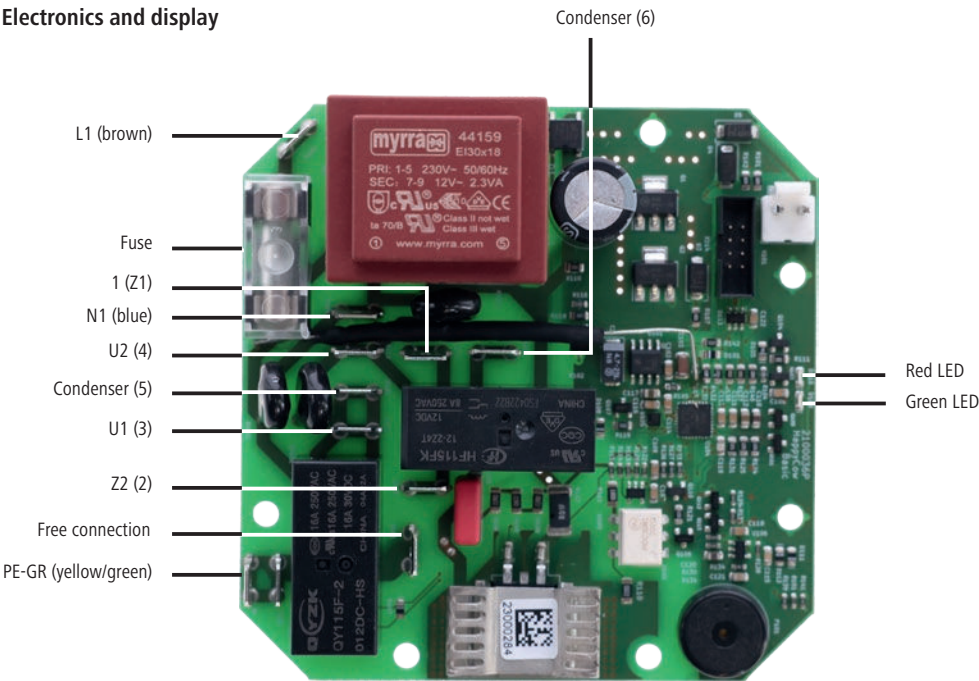

Figure 5: Circuit board connection diagram with capacitor - MaxiSwing
Fuse 6, 3 A on the circuit board has burned through or has come loose.	- Disconnect the control unit from the mains and secure it against being switched on again. - Check the secure position of the fuses. Replace defective fuses. (Fig. 5 – item 3+4) - If there is no indication on the display when restarting with replaced fuses, then the main board is defective.